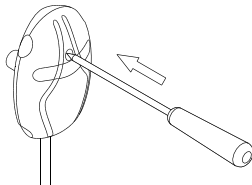

Figure 8. How to reset the overheat protector
- The temperature sensor is equipped with an overheating protection that ensures the safety of the heater and the sauna. If the temperature in the sensor's environment rises too high, the overheat protector cuts off the heater power. Resetting the overheat protector is shown in > *Figure 8. How to reset the overheat protector*